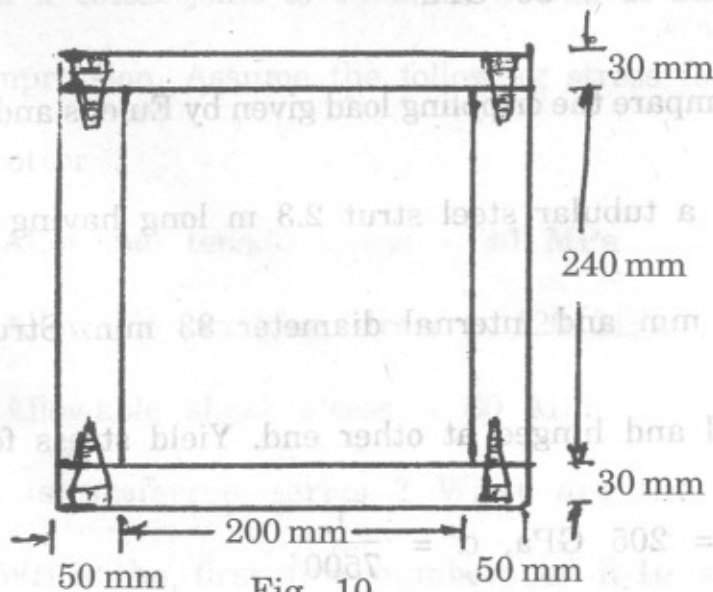

Fig. 10
- (b) A timber box beam having cross-section as shown in Fig. 10. The beam is simply supported and carries a vertical load 'P' at mid span. Length of beam is 2 m; allowable working stress in bending is 8 MPa. Each screw can transmit a shear force of 3000 N. Find the spacing of screws. [8]